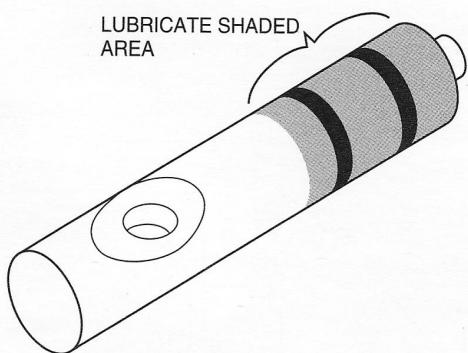

Fig. 31
- Install the two o-rings on the spigot plunger by rolling them onto the plunger. Seat the o-rings in the grooves ensuring that they are not twisted. Smooth the lubricant into the grooves and over the sides of the plunger assembly (Fig. 31).